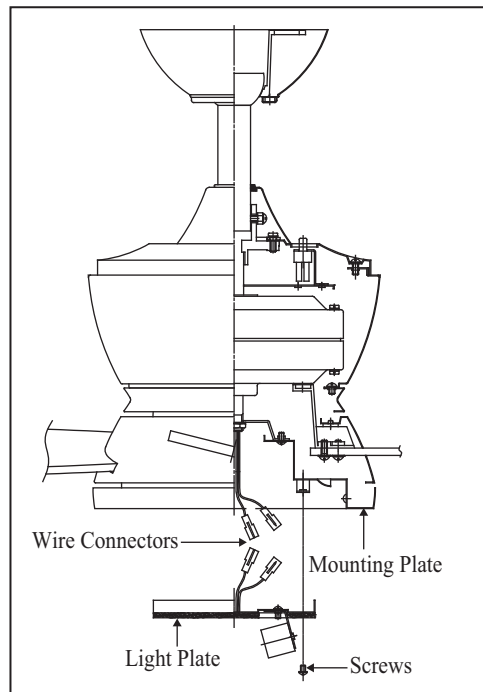

Figure 19
2. Raise and hold the light kit close to the mounting plate and proceed to do the wire connections. Connect the white wire connectors from the light kit and fan, follow the same procedure with the black wire connectors. (Fig. 19)